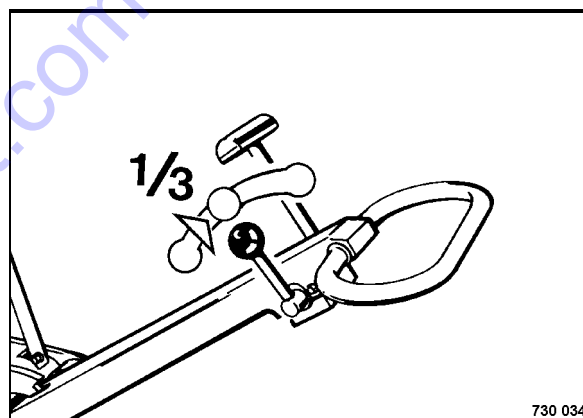

Fig. 7
- Shift throttle lever (Fig. 7) to approx. 1/3 engine speed.